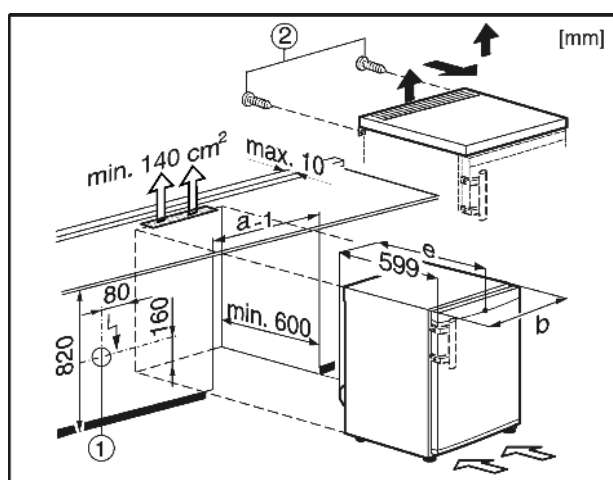

Fig. 9
With such installations, the plug *Fig. 9 (1)* must not be located behind the appliance and must be easily accessible.
- ▶ Remove the screws *Fig. 9 (2)* from the rear side.